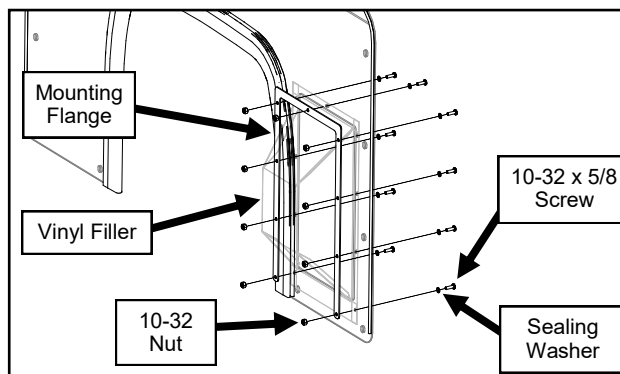

Fig. 9.2 (Pre-Assemble Vinyl Filler to Cowl)
- 9.2 Pre-assemble the vinyl filler and mounting flange to the cowl. See Figure 9.2.